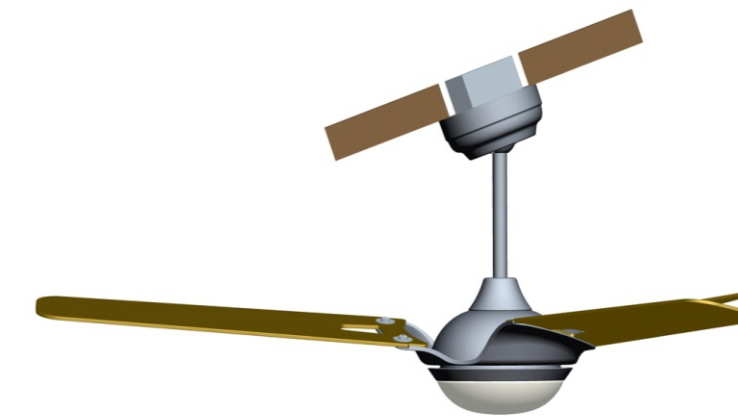

Fig 3.3
- Note:** The wooden ceiling beam must meet the tensile test of 30KG for installation, as shown in Fig 3.2. It is also possible to install the mounting bracket directly to the concrete ceiling and install four screws to the left and right corresponding holes of the bracket to lock the ceiling, as shown in Fig 3.3.
If you have an angled or vaulted ceiling: (Fig.3.3)